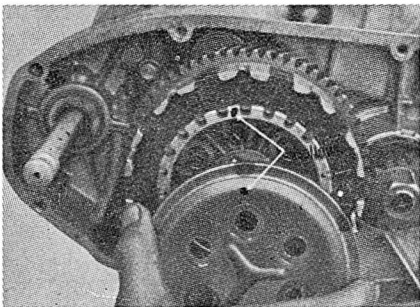

Fig. S5-17—View of alignment marks on pressure plate and hub of X-5 models.
If side play of clutch drum (1—Fig. S5-15 or S5-16) exceeds 0.3MM (0.0118 in.), spacer (2) can be shortened on a hone to provide clutch drum with 0.1-0.25MM (0.0039-0.0098 in.) side play. On X-5 models, the clutch springs (10—Fig. S5-15) should be screwed into hub (5) until flush with back side. Marks on pressure plate (8) and hub (5) should be aligned as shown in Fig. S5-17. On all models, primary drive gears should be renewed if backlash exceeds 0.0059 inch. Standard backlash is 0.0006-0.0027 inch. Clutch hub nut should be torqued to 31 Ft.-Lbs. Adjustment of clutch controls is outlined in a previous paragraph in MAINTENANCE section.